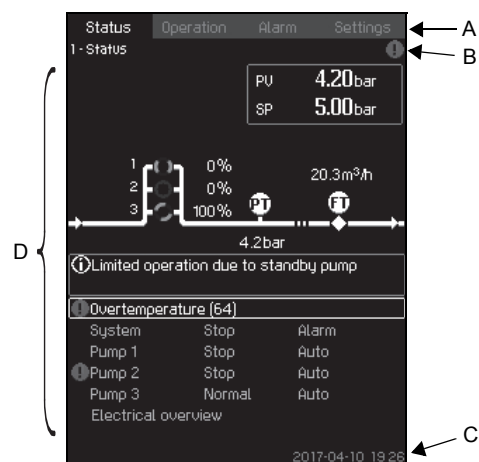

Fig. 9 Display design
The menu line (A) is illustrated in fig. 9.
The top line (B) is illustrated in fig. 9. It shows the following: